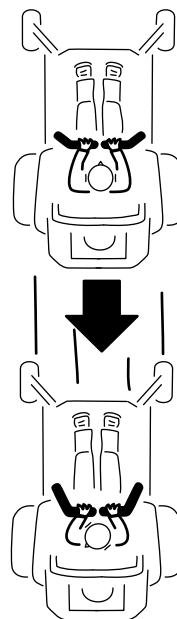

**Figure 26**
3. To go forward, slowly push the motion-control levers forward (Figure 26).